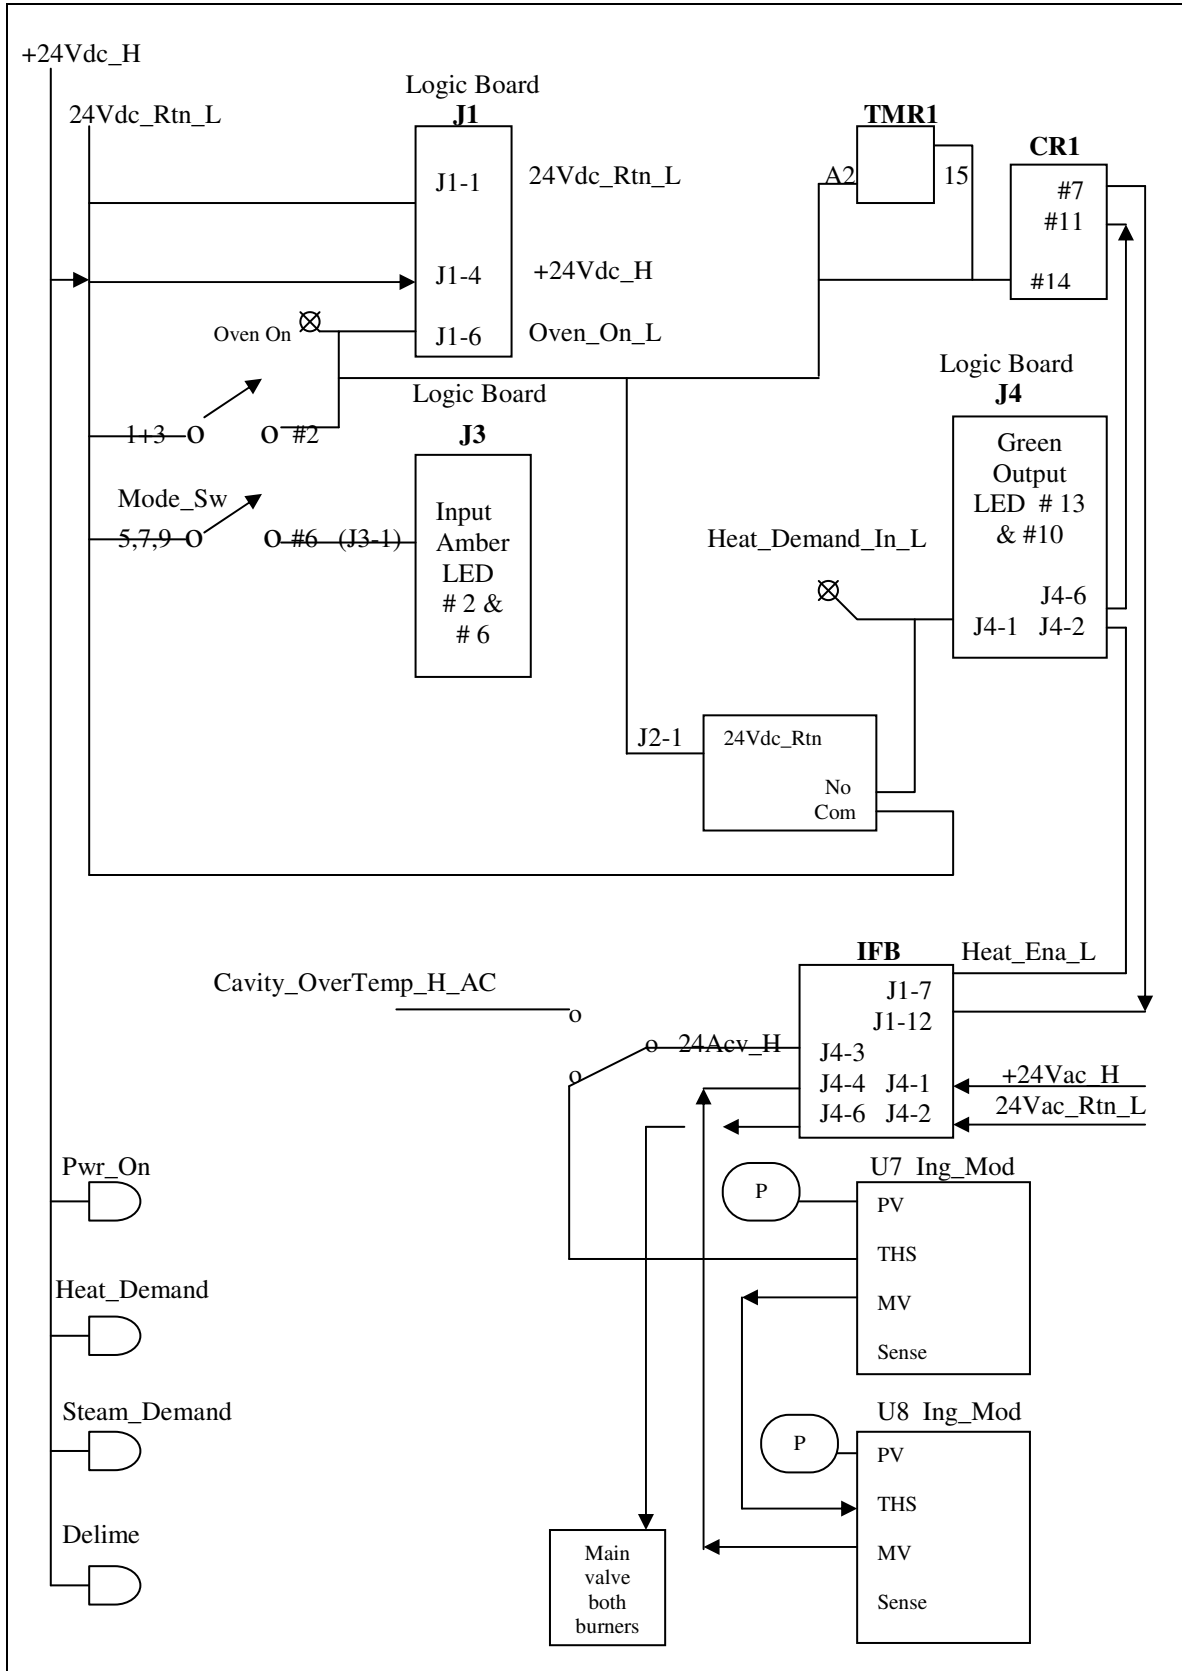

FIGURE 6
9. If not then check the (IFB J4) connector for damage. See the Combi mode troubleshooting flow chart (FIGURE 6).